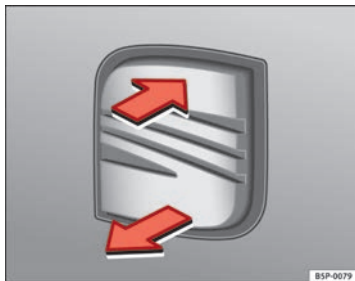

Fig. 74 Luggage compartment: opening from the outside
- Pull on the release lever ⇒ Fig. 74 and lift the rear lid at the same time.